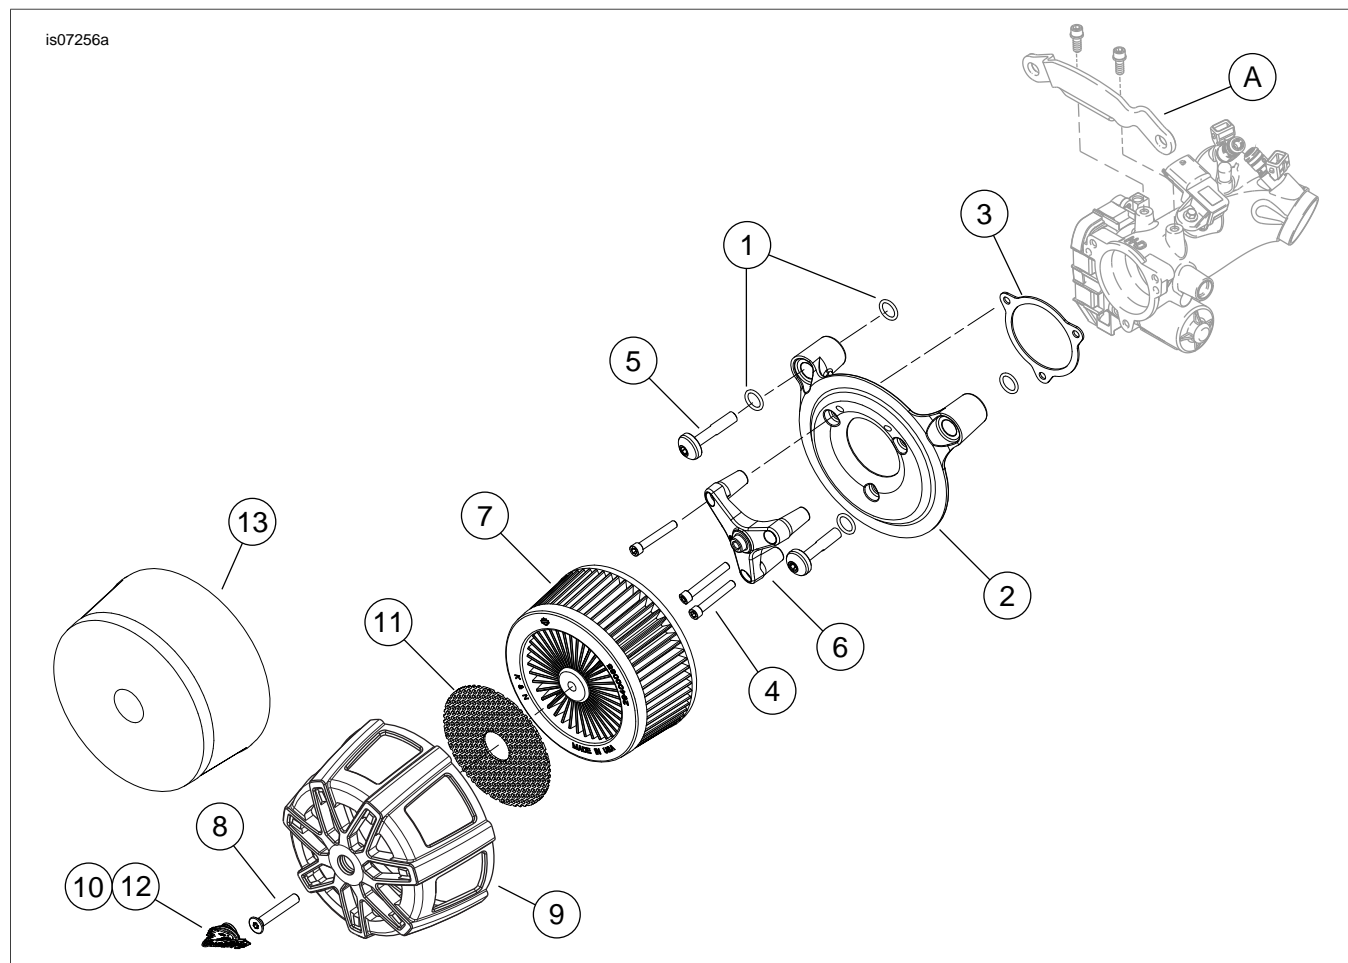

Figure 1. Service Parts, Screamin' Eagle Performance Air Cleaner Kit
See Figure 1 and Table 1.
4. See Figure 1 and Table 1. Remove and recycle or properly dispose of the induction module support bracket (A).
1. See Figure 1. Install two O-rings (1) from kit in grooves around breather screw holes on induction module side of backplate assembly (2).
1. See Figure 1. Install the air cleaner element (7), air filter screen (11), and cover (9). Before tightening the center screw, align the cover using the medallion for best appearance. Tighten center screw to 36-60 **in-lbs** (4.1-6.8 Nm).